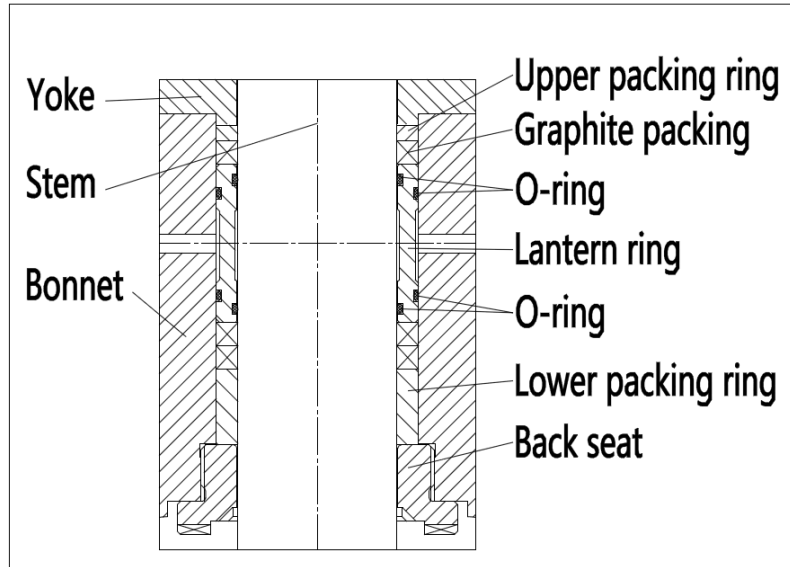
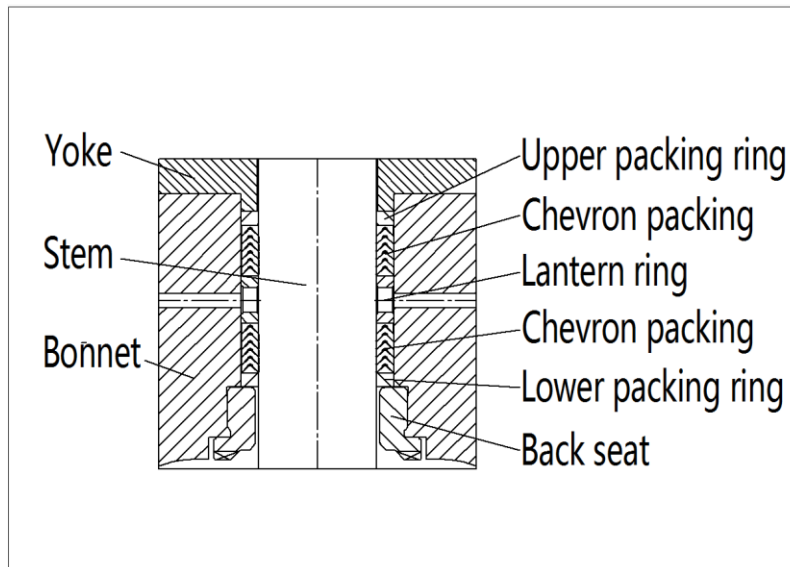

Figure 4 - O-ring & Graphite Packing
Figure 5 - Chevron Packing
6.3.2 For valves size larger than or equal to 16 inch, stem sealing system is as Figure 4 or Figure 5.
| Packing Chamber Leakage | Not enough packing / Gland bushing binding (only figure 5) | Increase packing ring quantity |